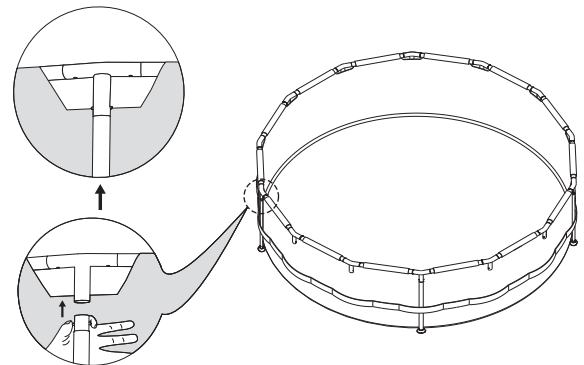

Figure 9
14. Look through the hole at the bottom of the T-fitting, as you insert the Vertical Leg ③ with Leg Cap ⑥, rotate it until the buttons align with the holes and pop out, locking the Vertical Leg in place (see Figure 9). Do this for all Vertical Legs.
**Note:** Each Vertical leg has a V-Shaped Spring Pin ⑦ pre-installed. There is an extra pin included with your pool parts.